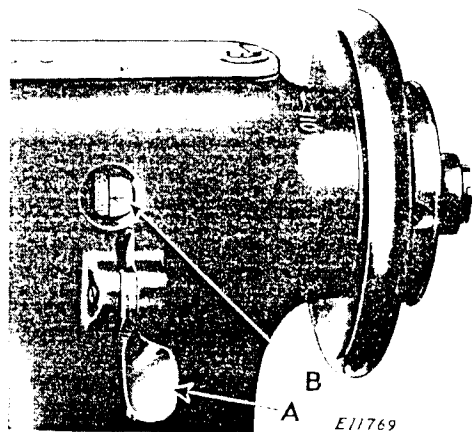

Fig. 17. Stitch Regulator
Press the stitch regulator lever (A, Fig. 17) and at the same time turn the balance wheel over toward you until the lever (A)
engages the notch in the stitch regulator flange (B, Fig. 17). Continue to hold the lever (A) in the notch in the flange (B) and at the same time turn the balance wheel backward or forward, as required, until the number of the desired length of stitch is opposite the arrow, as shown in Fig. 17, then release the lever (A).